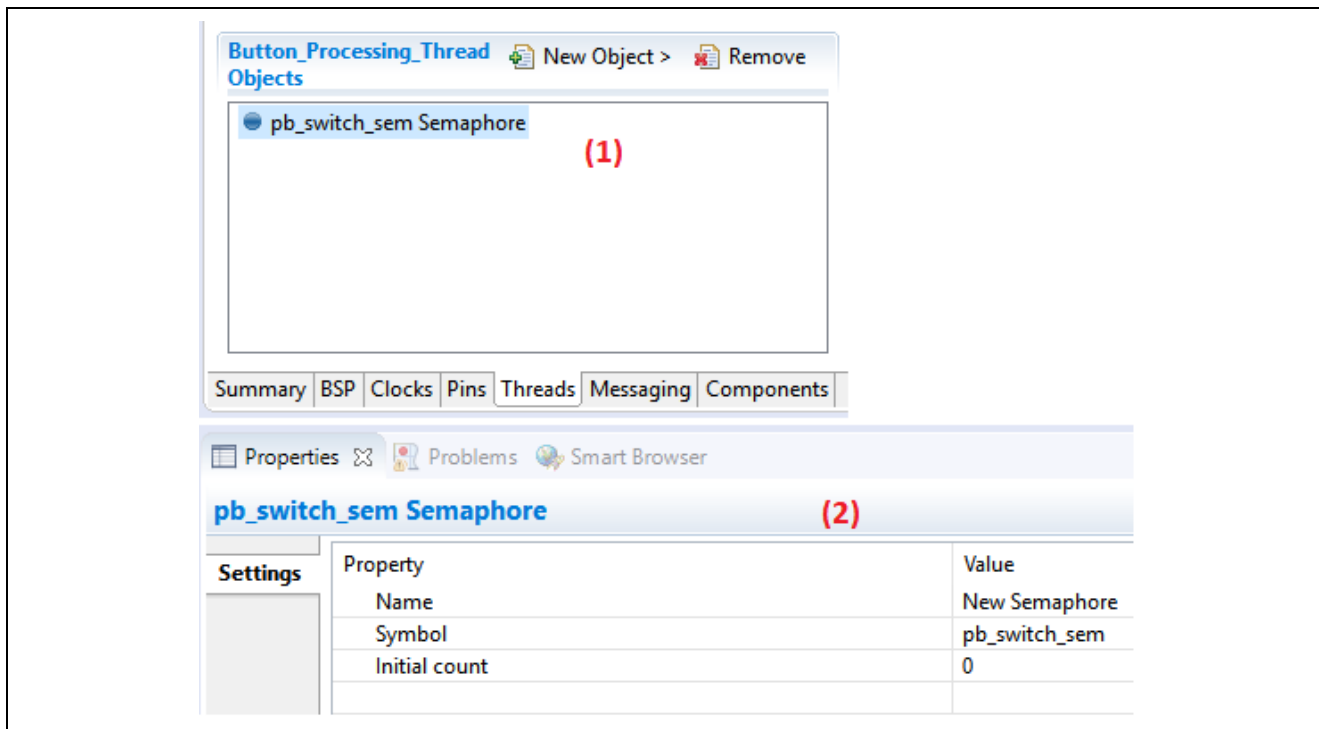

Figure 10. Button Thread Object Properties
- Click the **New Object** button in the **Button_Processing_Thread Objects** window. Create the thread object (see Figure 10).